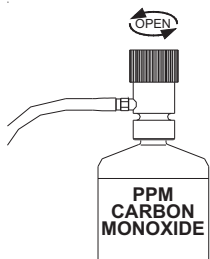

Figure 13
3. Open the gas regulator fully by turning the knob at least two (2) turns counter-clockwise (Figure 13).